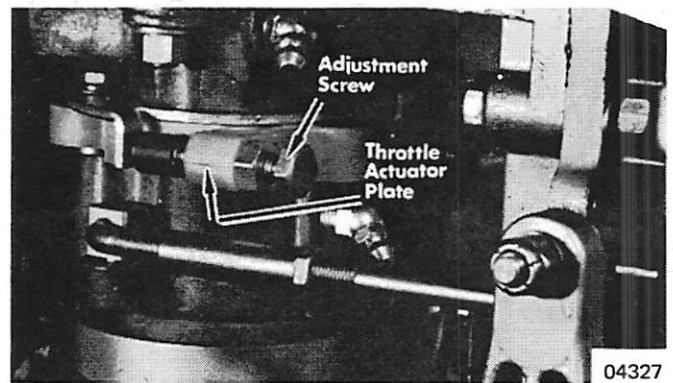

Figure 6. Adjustment Screw on Throttle Actuator Plate
- c. Without running engine, rotate distributor against spark advance stop. Adjust secondary pickup with screw on throttle actuator plate. (Figure 6) Turn screw